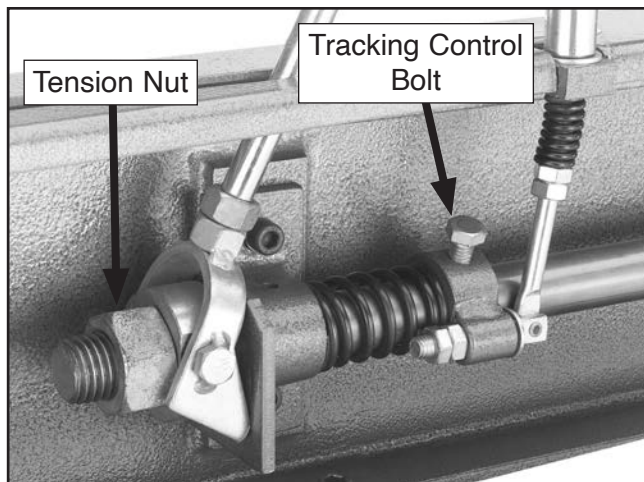

Figure 48. Belt tension nut and tracking control bolt.
6. Rotate the tension nut (**Figure 48**) counterclockwise to increase the belt tension and clockwise to decrease the belt tension.